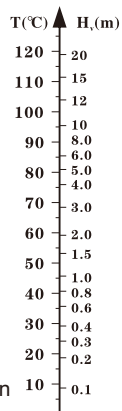

Figure3
- H_v : Water Vaporization Pressure (Figure 3)